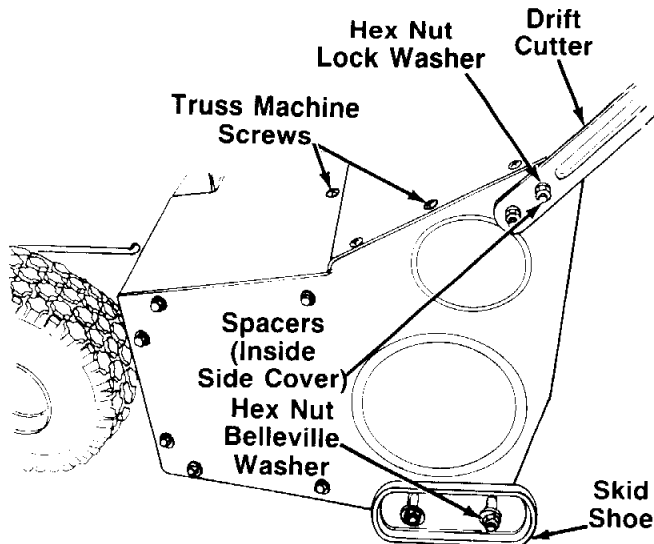

FIGURE 27B.—Models 31353 and 31383
- b. **Models 31353 and 31383:** Remove the upper hex nut and lock washer on the drift cutter on the right side of the unit. Remove the hex nut and belleville washer from the front of the skid shoe. Remove two truss machine screws on top of the unit as shown in figure 27B.
Upon reassembly, make certain spacers are on the carriage bolts inside the side cover. See figure 27B.